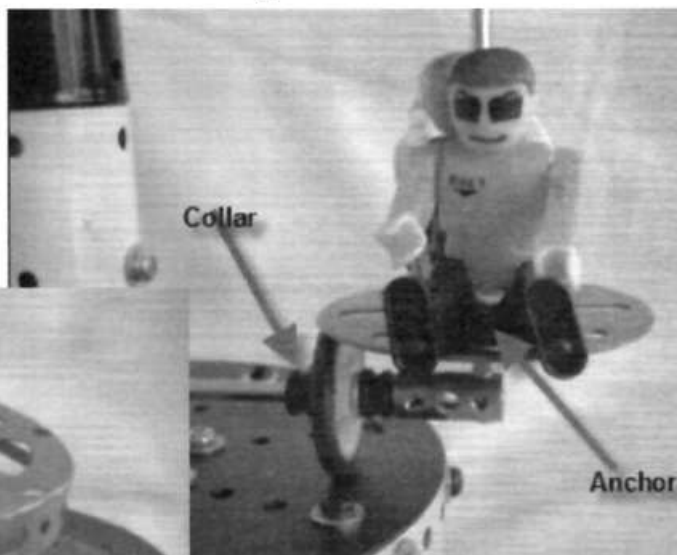

Fig. 2
2. A collar keeping a 1" pulley in place, and as an anchor to hold in the passengers. The grommet is placed on a long bolt and the Meccanomen's legs are clamped around it (see Fig.2).